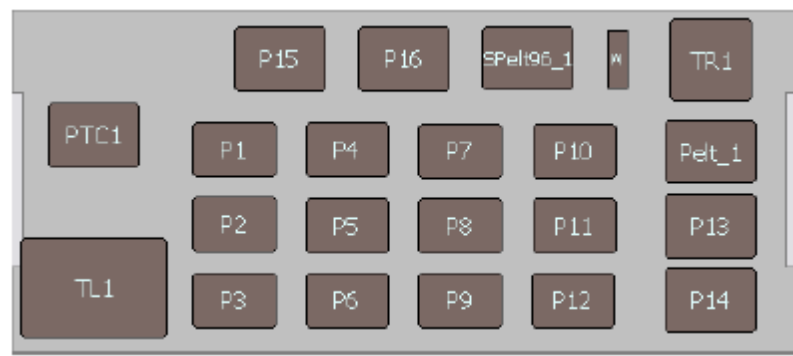

Figure 45 Empty deck positions.
- Figure 45— location names of empty deck positions
^[1] See Figure 45 for empty deck positions.